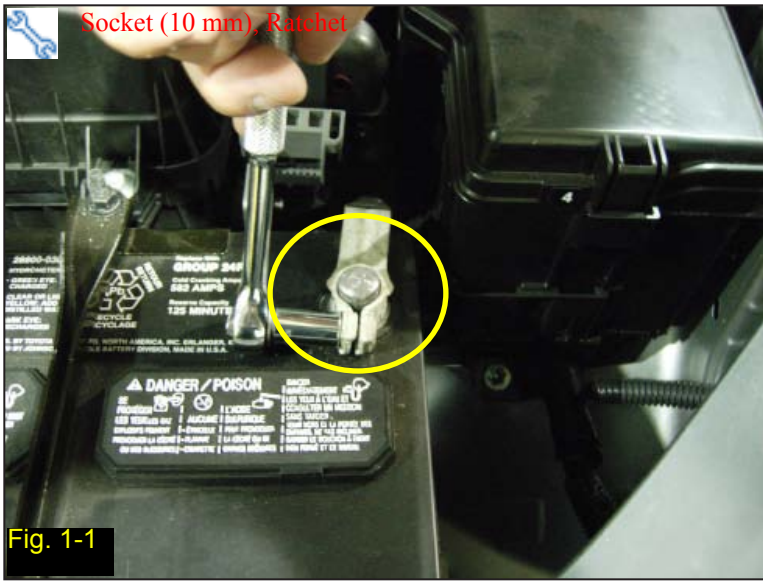

Fig. 1-1
1. Vehicle Preparation (Fig. 1-1)